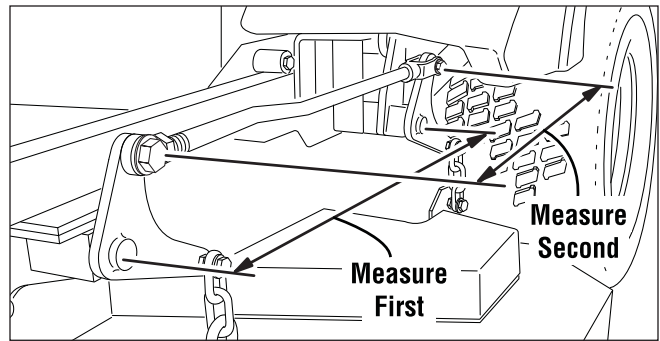

Figure 43. Check Deck Lift Rod Timing
2. To check the deck lift rod timing, measure and record the distance between the lift pivots and the rod pivots. Repeat for other side of unit. See Figure 43.